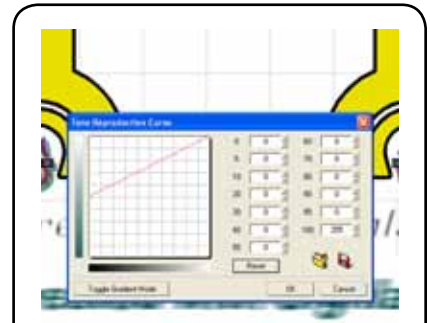

Fig. 33 - Drag the left end of the curve up 5 grid markers, which reduces the overall metallic ink by about 50%.
55. Click the bottom-left corner and drag it up 5 grid markers to half way (Fig. 33). This will reduce the metallic ink to about 50%.